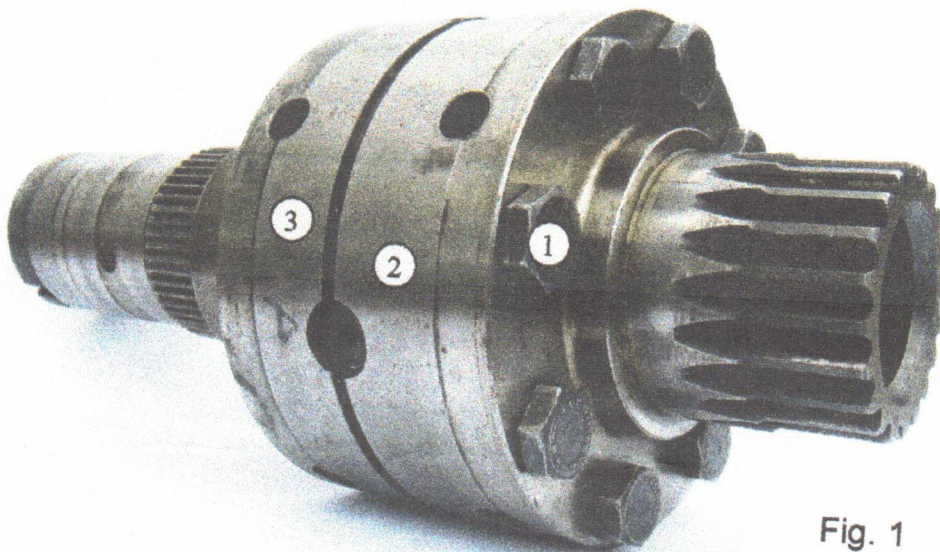

Fig. 1
- 2) Remove the transfer case differential assembly [Fig. 1] as per procedures in the "Land Rover" service manual.
- 3) Loose screws (1) and open differential front case (2) and rear case (3) [Fig. 1].